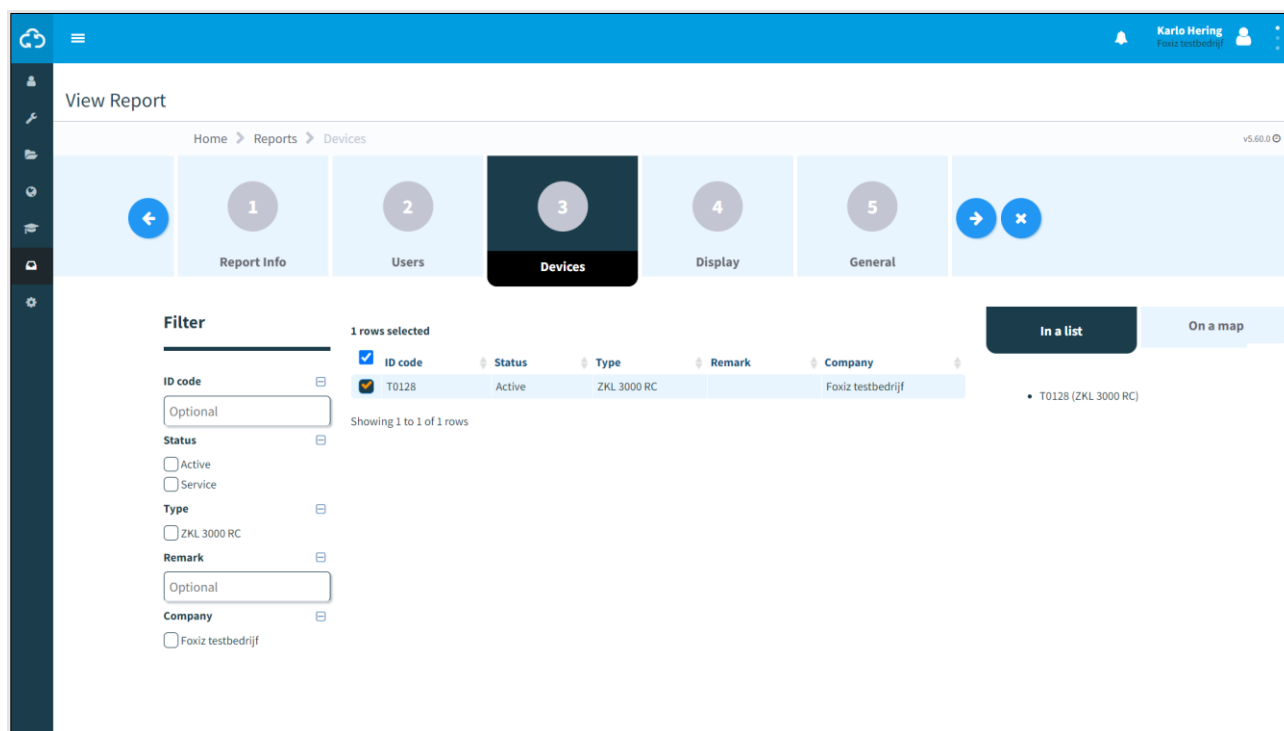

Figure 76 View report - Devices
- Step 1 - Devices (Figure 76);